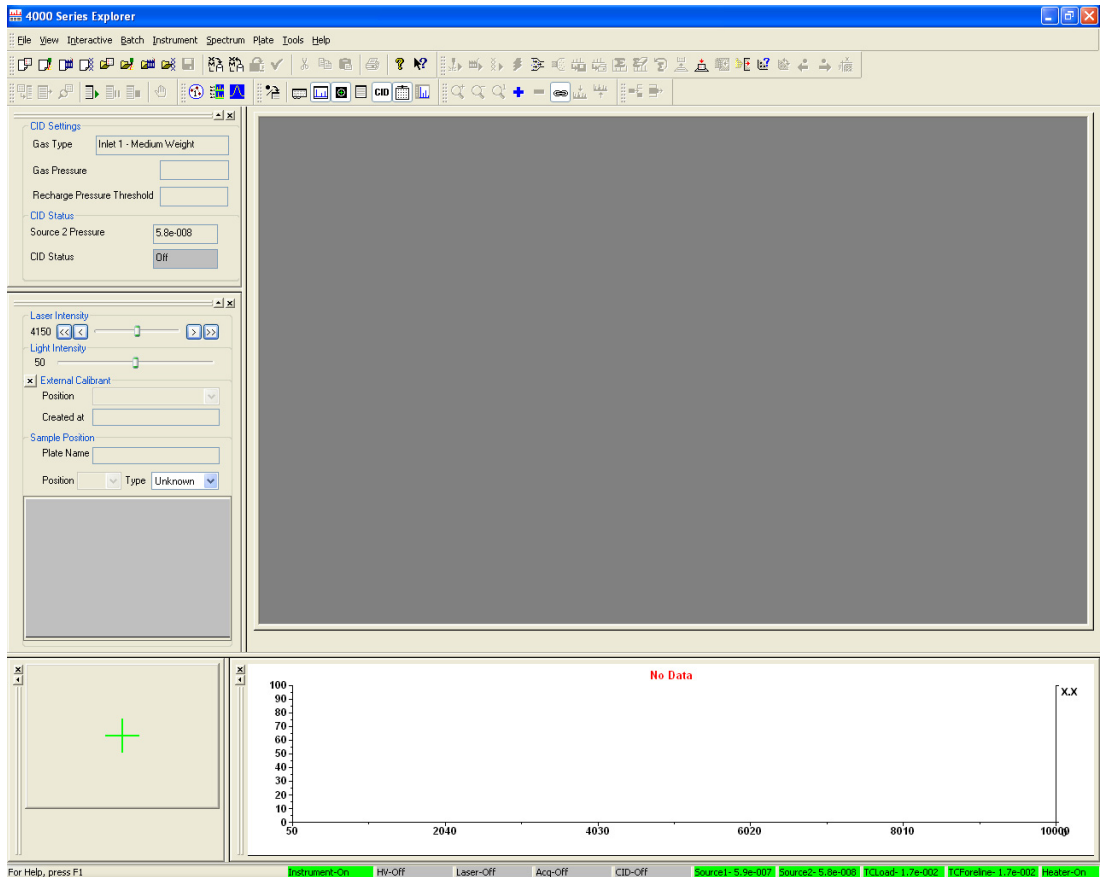

Figure 2-1 4000 Series Explorer™ Software
2. Double-click the **4000 Series Explorer** icon on the Microsoft® Windows® XP desktop. The 4000 Series Explorer™ software starts (Figure 2-1), and the hardware is automatically initialized.